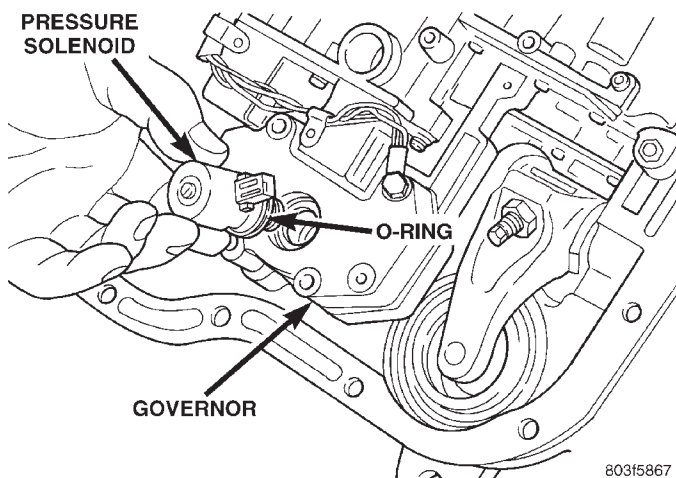

Fig. 43 Governor Pressure Solenoid
(7) Remove governor pressure solenoid by pulling it straight out of bore in governor body (Fig. 43). Remove and discard solenoid O-rings if worn, cut, or torn.